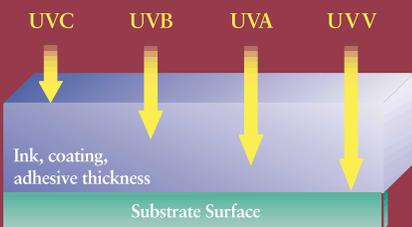

Figure 15: The longer wavelengths have a better chance for penetrating through coatings than the shorter wavelengths.
5. UVV 400-450 nm The UVV bandwidth contains the ultra long UV wavelengths. There is no precisely defined boundary between UV and Visible Light, and the boundary is considered between 400-450 nm. The final “V” in UVV refers to the visible and it should not be confused with the “V” as in vacuum in VUV. UVV is an important bandwidth because on a relative basis it has the ability to penetrate through inks and coatings much better than shorter UV wavelengths. Additive (mercury-gallium or mercury-iron) bulbs, which are rich in longer wavelengths, are often used for opaque inks and coatings where adhesion or depth of cure to the substrate is a problem. The additive bulbs must be matched to the formulation and UV system. (see Figure 15)